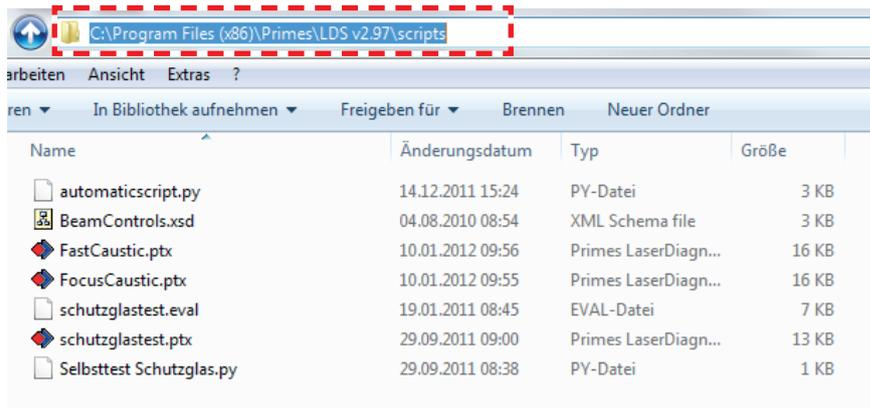

Fig. 19.23: Script directory
The script controlled LDS offers the possibility to evaluate several beam parameters to qualify the measurement. The evaluation is controlled by files with the extension “*.eval”. One of these files is installed with the LDS in the script folder (see Fig. 19.23).
6. Copy the file **BeamControls.xsd** in the explorer from the script path (Fig. 19.23 on page 55) to the save directory (BCS_Saves).